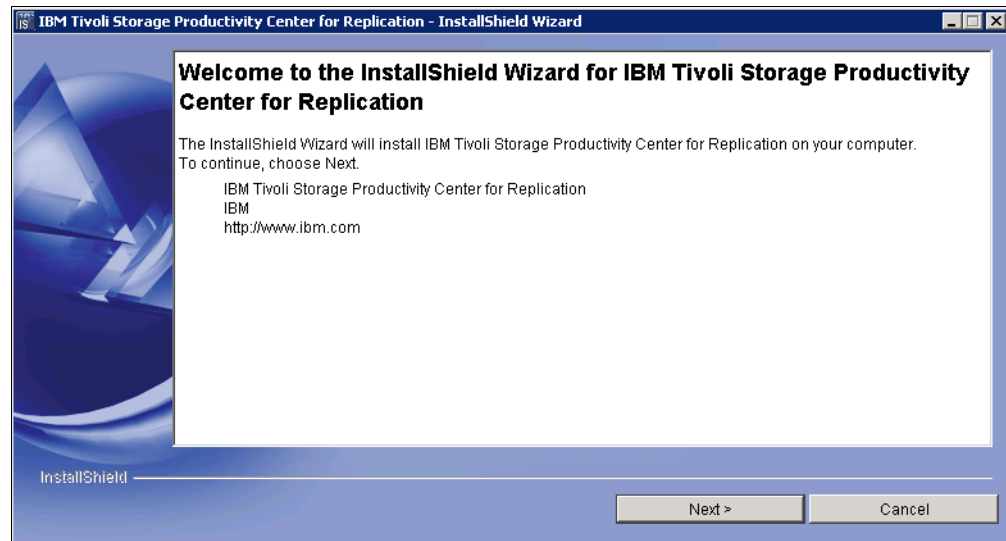

Figure 12-29 Tivoli Storage Productivity Center for Replication wizard
9. The installation task now starts and takes some time. During the installation, you are prompted to select the Tivoli Storage Productivity Center for Replication settings (Figure 12-29). Click **Next**.